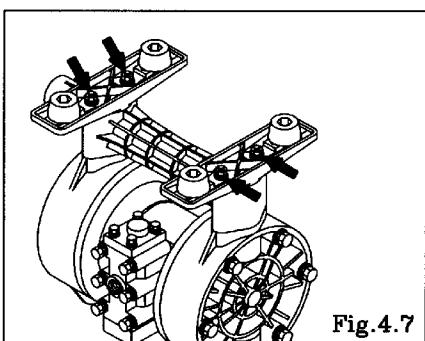

Fig.4.7
- Turn over the main body assembly. [Fig.4.7]
- Pull out the tie rod, and remove the base and in manifold. [Fig.4.7]